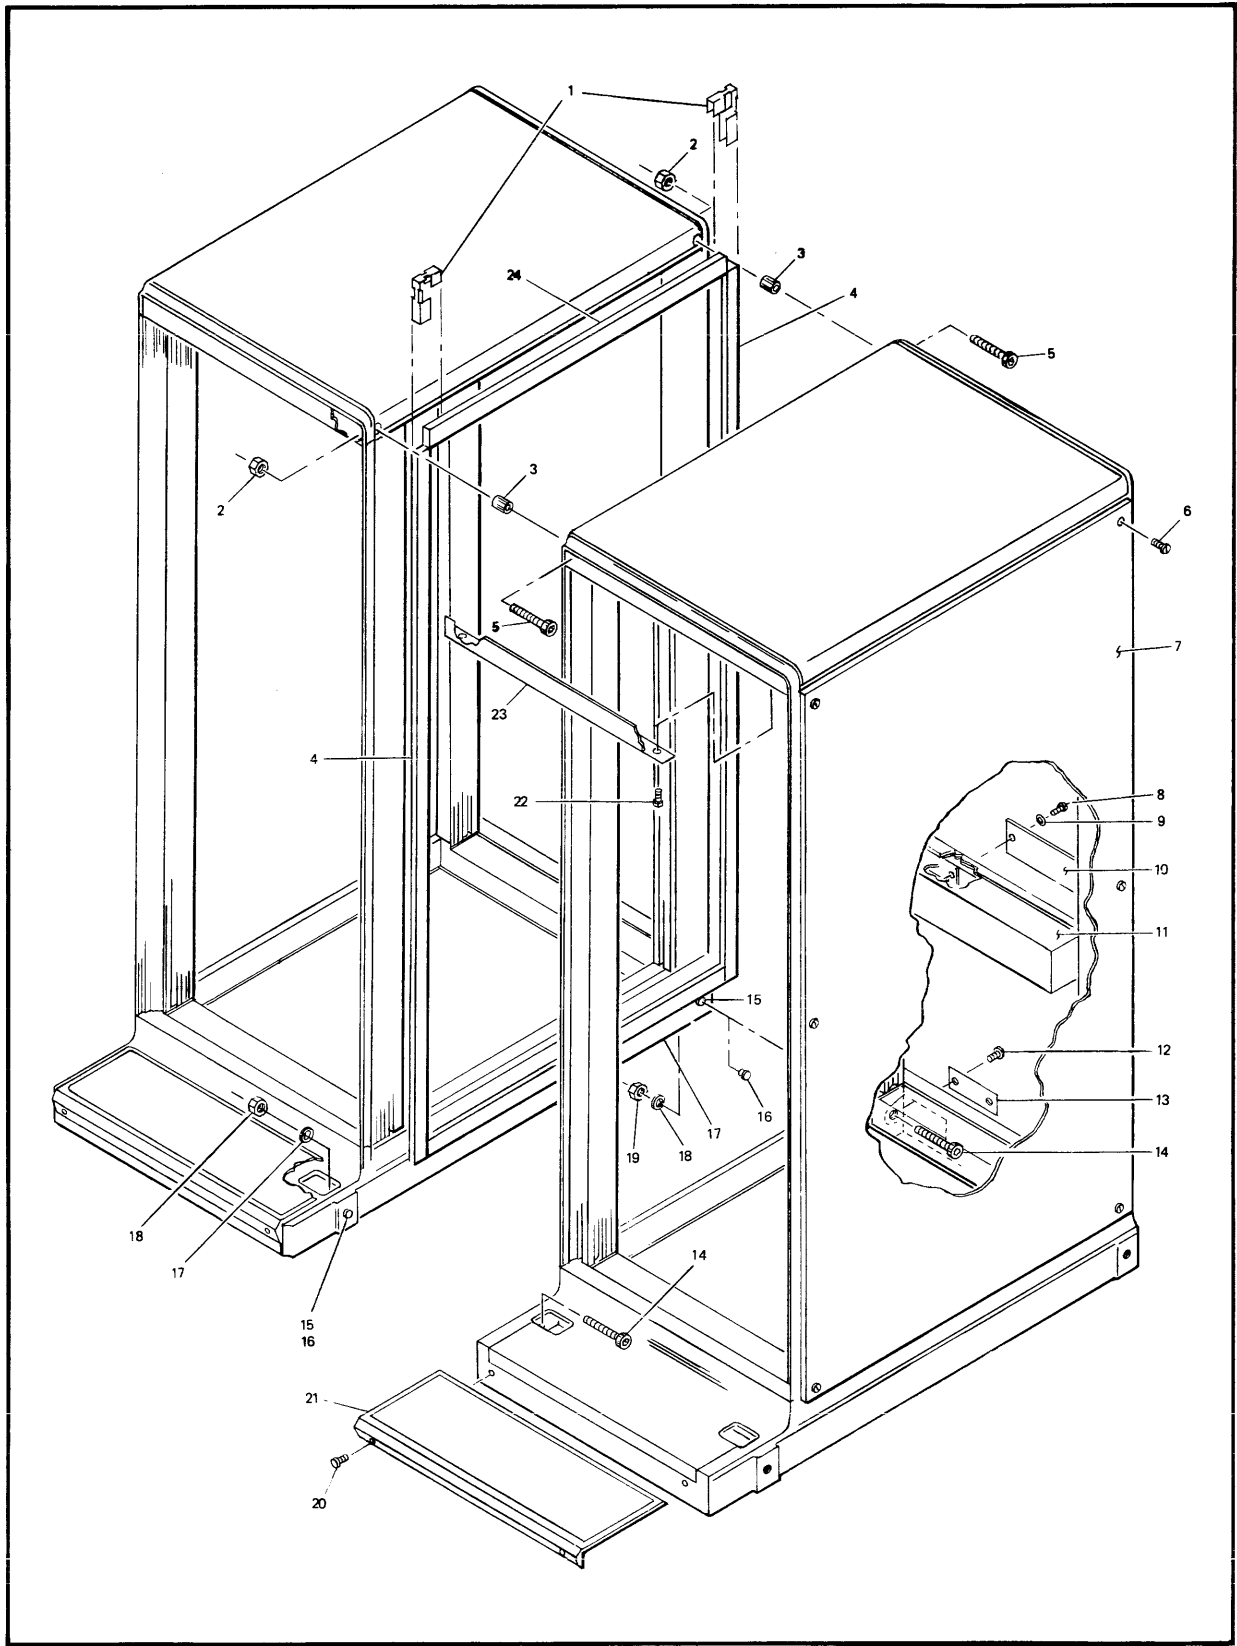

Figure 2-8. Multi-Bay Configuration, Assembly Details
*Note: In the following procedure, steps flagged with “(B)” are to be performed on both cabinets. The numbers in parentheses refer to callouts in figure 2-8.*
- c. (B) Remove base cover (21) by removing two screws (20) from front.
- d. (B) Remove access plate (13) nearer mating side by removing two screws (12).